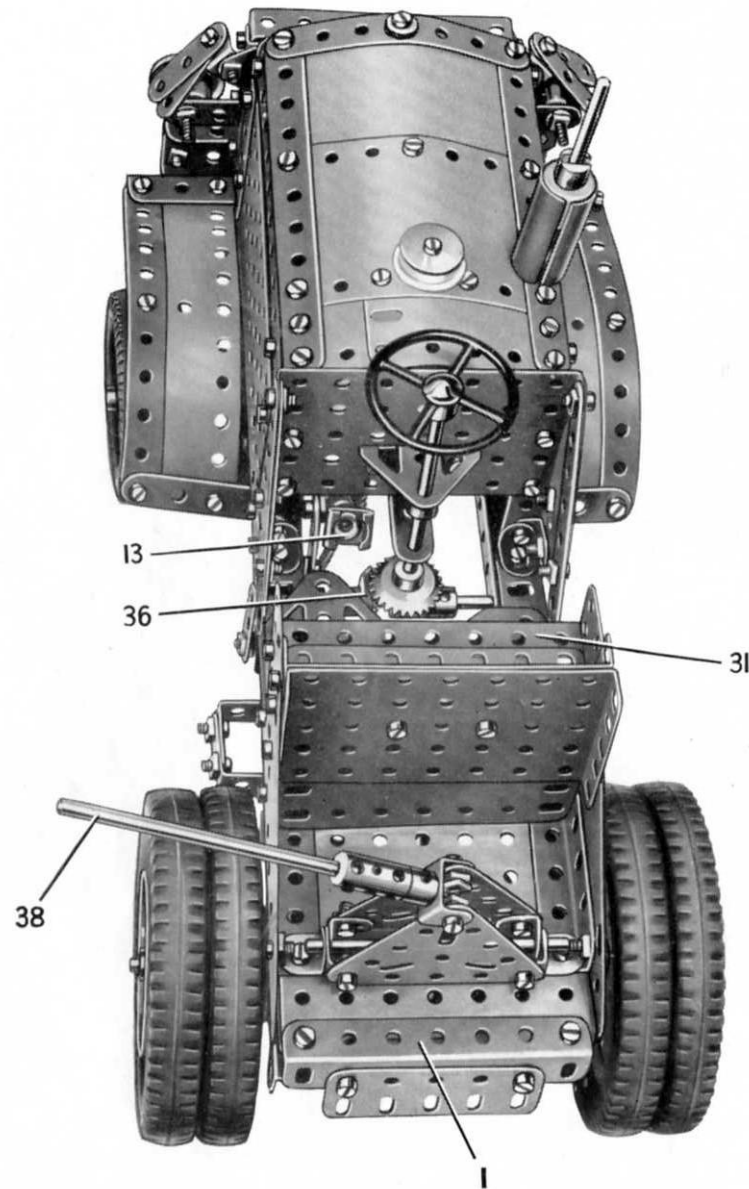
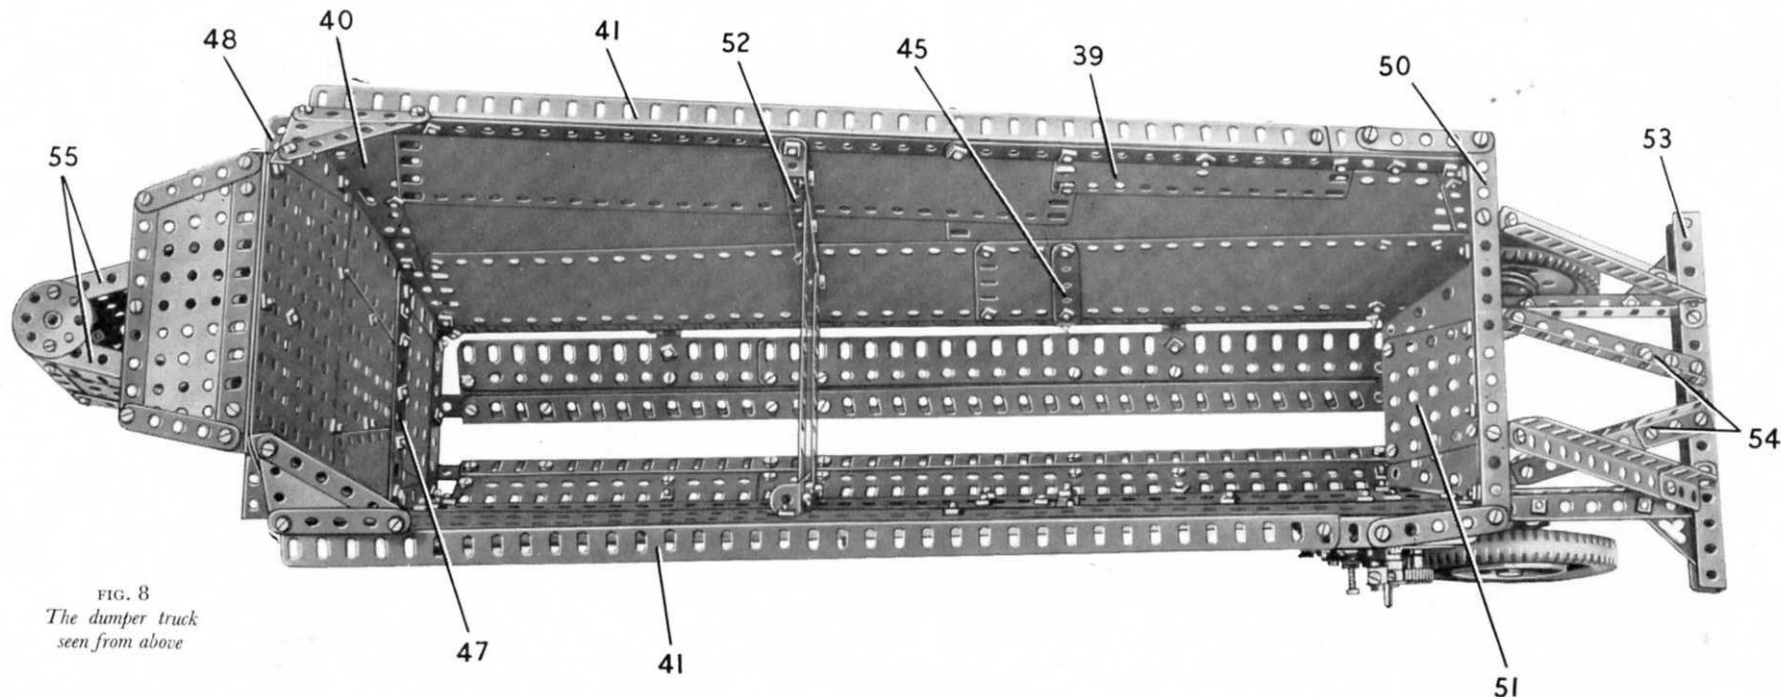

FIG. 5
FIG. 8
The clutch is disengaged by pressing a pedal (13) (Fig. 5), formed by a Slide Piece on a $4''$ Rod. A Collar is fixed on this Rod immediately below the Slide Piece, and a $1\frac{1}{2}''$ Strip (14)
The top of the bonnet is filled in by two $3\frac{1}{2}$ " \times $2\frac{1}{2}$ " Flexible Plates and two $2\frac{1}{2}$ " \times $1\frac{1}{2}$ " Flexible Plates edged by Strips (Fig. 5). The Plates are curved slightly and the assembly is attached to the sides of the bonnet by Obtuse Angle Brackets. A $\frac{3}{4}$ " Flanged Wheel, capped by a $\frac{3}{4}$ " Washer, is fixed to the top by means of a $\frac{3}{4}$ " Bolt.
The driver's seat is formed by two $3\frac{1}{2}" \times 2\frac{1}{2}"$ Flanged Plates placed back to back and extended by a $3\frac{1}{2}" \times 2\frac{1}{2}"$ Flexible Plate (see Fig. 5). A $3" \times 1\frac{1}{2}"$ Flat Plate and a $3\frac{1}{2}" \times 2\frac{1}{2}"$ Triangular Flexible Plate are bolted to each side as shown (Fig. 2), and these parts are fastened to $3\frac{1}{2}"$ Angle Girders fixed to the chassis. A $3\frac{1}{2}"$ Angle Girder (31) (Fig. 5) is connected to the Flat Plates by Angle Brackets, and a $3\frac{1}{2}"$ Flat Girder behind Girder (31) is supported by a $1\frac{1}{2}"$ Angle Girder bolted to the Flanged Plates.
The steering column is a $4\frac{1}{2}"$ Rod supported in a Trunnion and a $1" \times 1"$ Angle Bracket bolted to the back of the bonnet (Fig. 5). The Rod carries a $\frac{3}{8}"$ Bevel Gear, and its lower end enters the centre hole of a Coupling mounted
The Coupling Pivot for the Dumper (Fig. 5)
Construction of the Dumper: The Body (Figs. 8 and 9)
Each side of the dumper body is formed with three $12\frac{1}{2}" \times 2\frac{1}{2}"$ Strip Plates, two $9\frac{1}{2}" \times 2\frac{1}{2}"$ Strip Plates, a $5\frac{1}{2}" \times 1\frac{1}{2}"$ Flexible Plate (39) (Fig. 8) and a $3\frac{1}{2}" \times 2"$ Triangular Flexible Plate (40). These Plates are bolted together as shown in Figs. 8 and 9, and are edged along the top by a girder (41), made from an $18\frac{1}{2}"$ Angle Girder and a $3"$ Angle Girder. A girder (42), made from a $5\frac{1}{2}"$ Angle Girder and a $2"$ Angle Girder, is bolted along the front edge of each side and is connected to a $24\frac{1}{2}"$ Angle Girder (43) by an Obtuse Angle Bracket. The side is strengthened by two $5\frac{1}{2}"$ Strips (44), a $3"$ Strip (45) and a built-up strip (46), the lower ends of these Strips being bolted to the Girder (43). The strip (46) consists of a $5\frac{1}{2}"$ and a $3"$ Strip.
The front ends of the Girders (55) are connected by a 'U'-section Curved Plate and two Bush Wheels, as shown in Figs. 8 and 9. The Rod (38) (see Fig. 5) of the motor unit passes through the Bush Wheels to form the coupling between the motor and the dumper.
The Dumper Doors and Operating Mechanism (Figs. 8, 9 and 10)
The floor of the dumper takes the form of two opening doors each made from two $12\frac{1}{2}$ " Flat Girders, two $7\frac{1}{2}$ " Flat Girders and an $18\frac{1}{2}$ " Angle Girder, arranged as shown in Figs. 8 and 9. Two $1"$ \times $\frac{1}{2}"$ Angle Brackets are bolted to each door, and a bolt is fitted with a nut and then is passed through each Angle Bracket. Two Collars (57) are screwed tightly on to the bolts and then an $11\frac{1}{2}"$ Rod is pushed through them. The Rods are supported in Handrail Supports